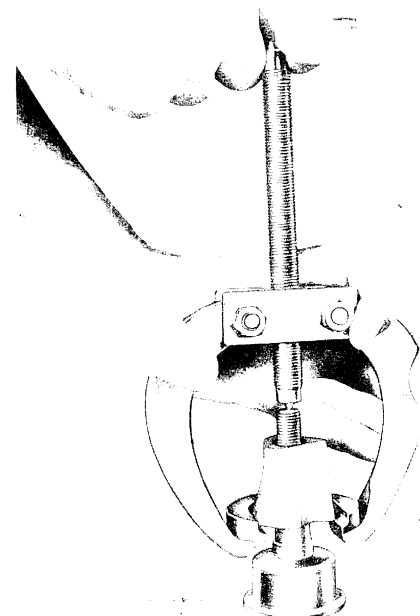
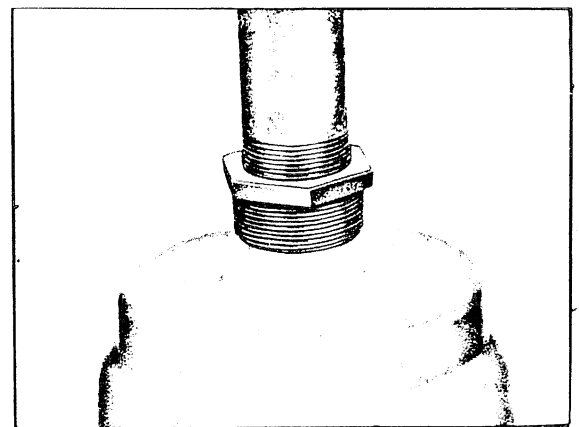
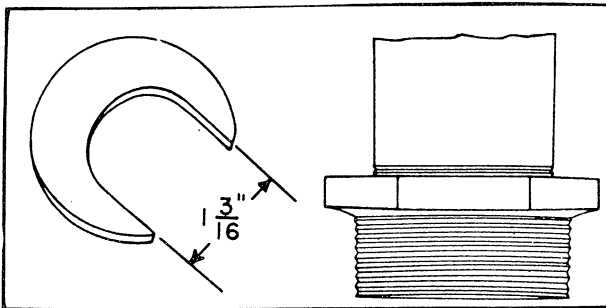

Figure 99
Figure 106
Figure 107
1. Remove the Drive Block using WH50X73 horseshoe washer (or homemade washer shown in *Figure 107* and a WH50X61 wheel puller, *Figure 99*.
WH8X61 which comes with the seal is properly seated. Then, using an installation tool, bottom the seal by striking the tool lightly with a hammer, *Figure 106*. This seal tool and a suitable horseshoe washer for removing top seals can be made as shown in *Figure 107*.
The drive tube seal installation tool can be made from an I.P.S. 2" to 1 1/2" bushing which can be purchased at a plumbing supply house. Attach to it a 15" piece of 1 1/2" steel pipe threaded on one end as shown in *Figure 107*.